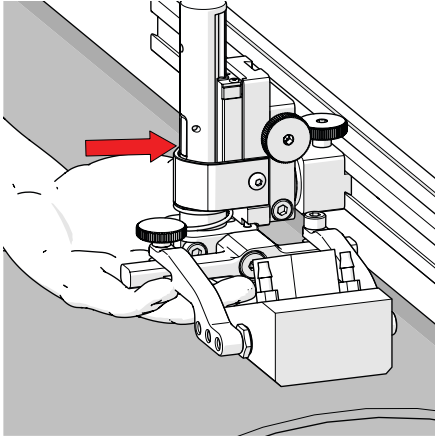
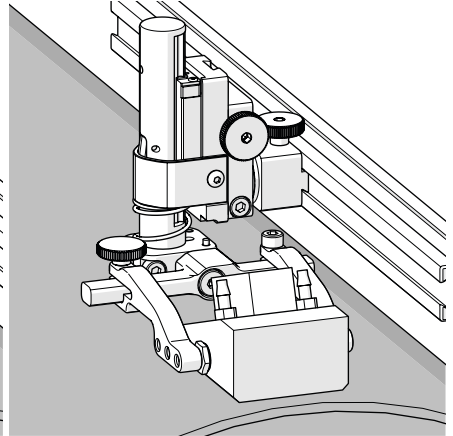

Fig. 112 - Press latch button
Fig. 113 - Lower toward scan surface
4. Lift the yoke slightly and press the latch button (Fig. 112), then slowly lower towards scanning surface to apply spring pressure to the wedge (Fig. 113).